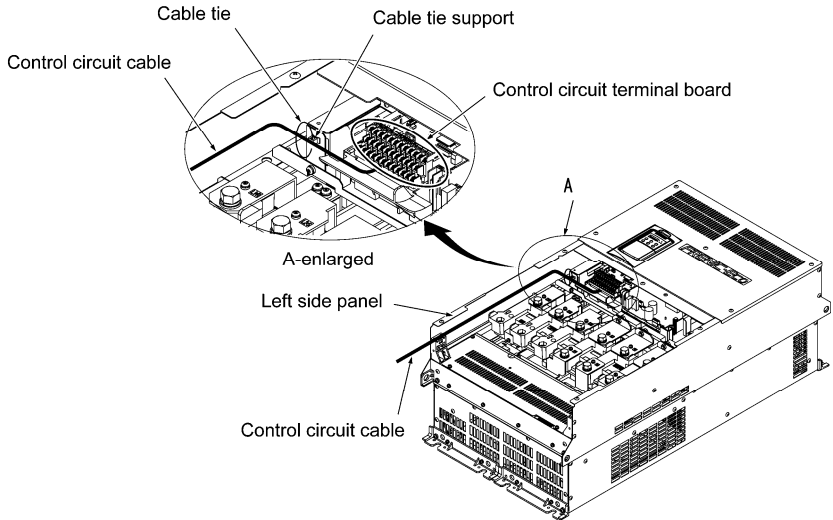

Figure 2.26 Routing and Fastening the Control Circuit Cable
- ① Route the control circuit cable in keeping with the left side panel of the inverter as shown in Figure 2.26.
- ② Fasten the control circuit cable to the cable tie support with a cable tie (insulation lock) as shown in Figure 2.26.